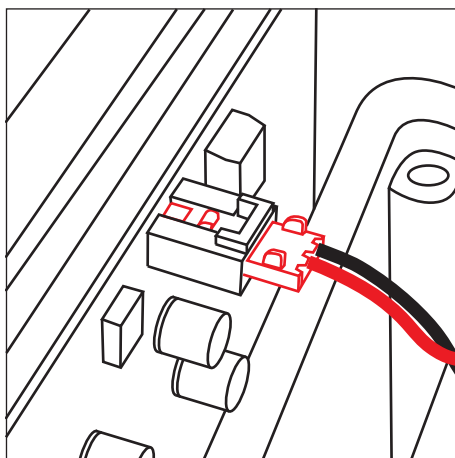

Fig. 39. The data logger's battery connector.
3. Undo the six screws on the face of the logger using a **Phillips No. 2** driver and separate the logger from the battery case until you are able to reach the battery connector per *Fig. 39 on page 66*.